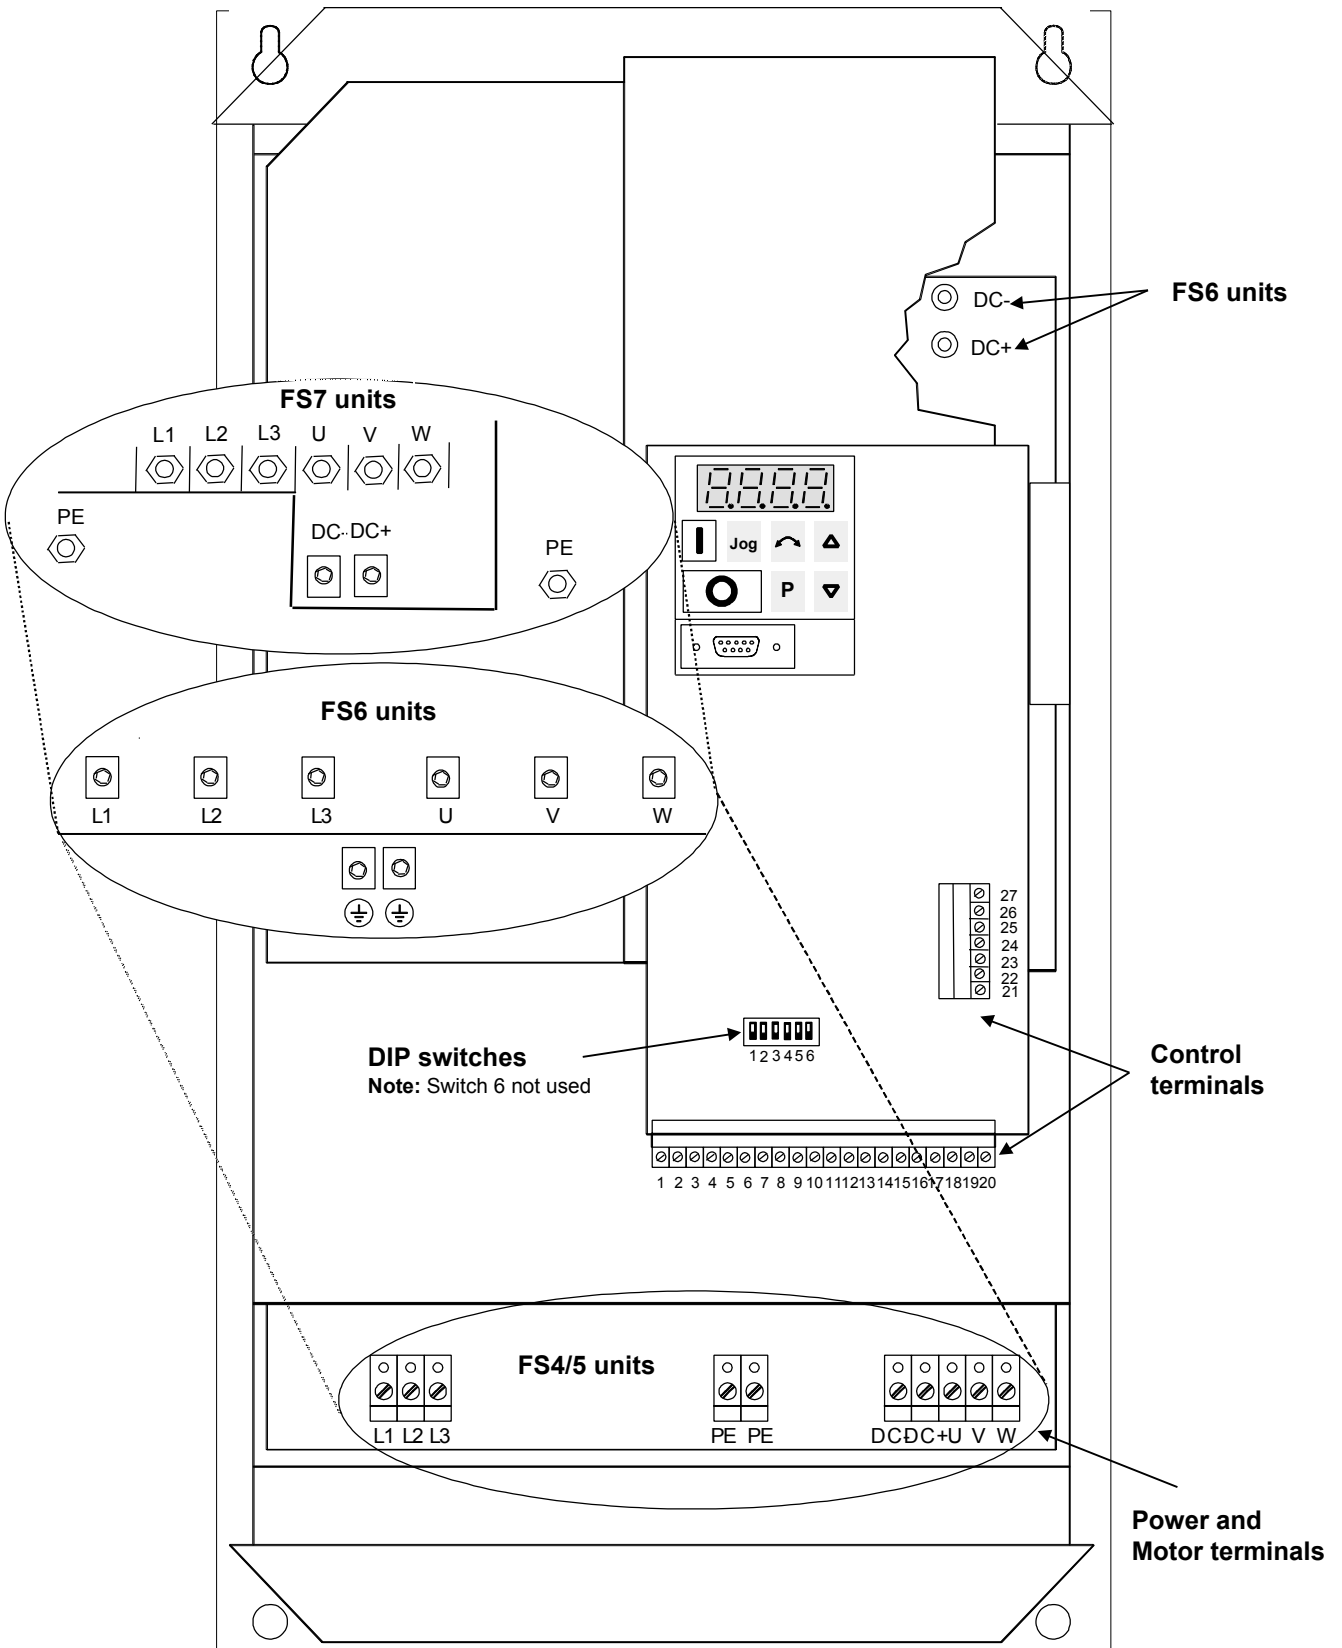

Figure 3.2.1: MIDIMASTER Vector Connectors
The electrical connectors on the MIDIMASTER Vector are shown in Figure 3.2.1.
2. Connect the power input to the power terminals L1, L2, L3 (3 phase) and earth (PE) (shown in Figure 3.2.1) using a 4-core cable and lugs to suit the cable size. For the cross-section of each core, see section 8.
3. Use a 4-core screened cable and suitable lugs to connect the motor leads to the motor terminals U, V, W and earth (PE) (shown in Figure 3.2.1).
Control connections to the MIDIMASTER Vector are made via two terminal blocks located as shown in Figure 3.2.1. The terminal blocks are of a two-part design. The part containing the screw terminals can be unplugged from it's housing before wires are connected. When all connections to the terminals have been made (as shown in Figures 3.2.1 and 3.2.2) and secured, the terminal block must be plugged firmly back into it's housing.
- for Frame size 4, 5 and 6 the front cover is removed (see Figure 3.2.1).
- for Frame size 7 the lower front cover is removed (see Figure 3.2.1).